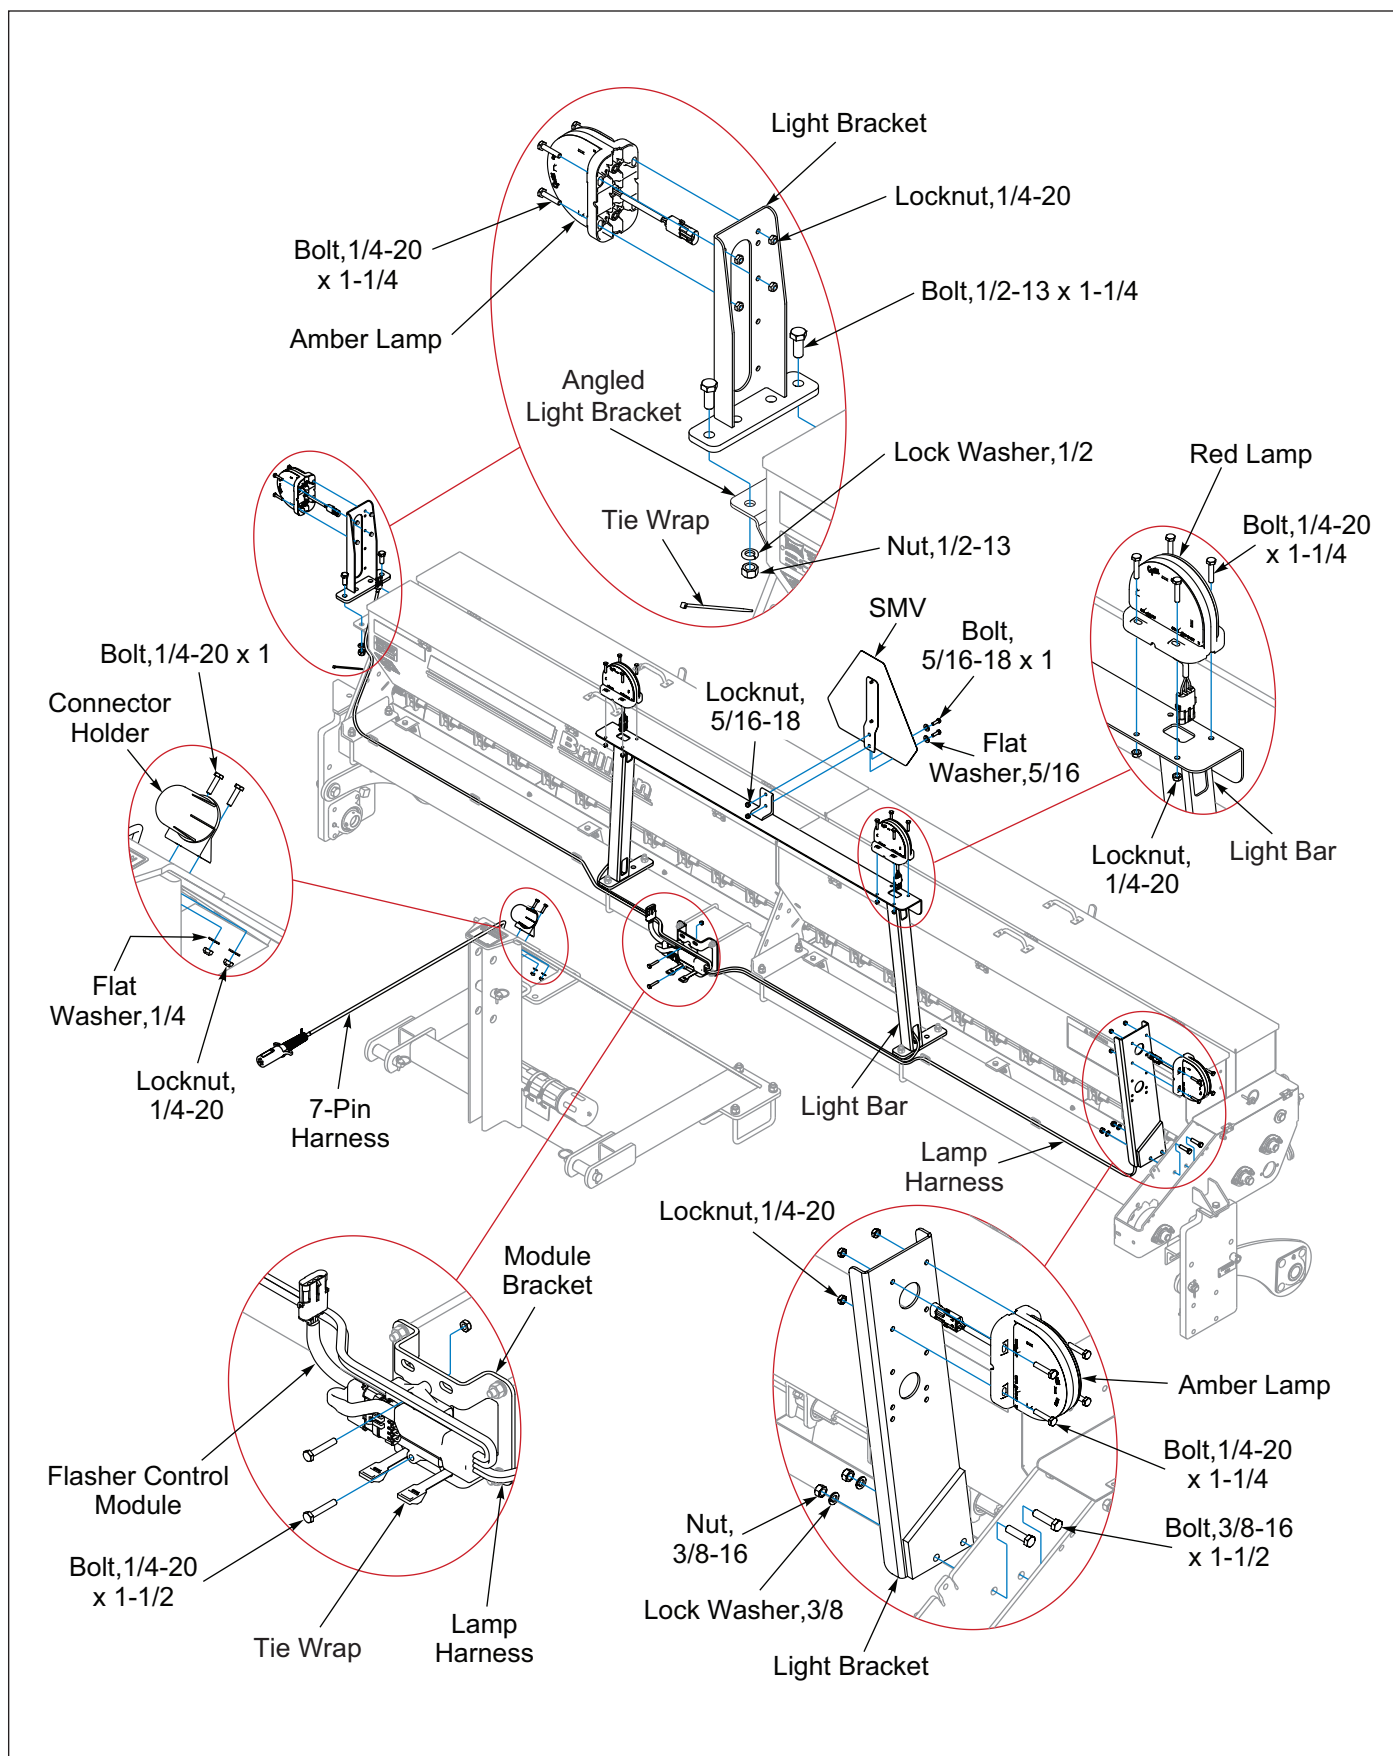

Figure 2-26: Warning Lamp Installation - 12FT (Before 08/2025)
1. Place a Red Lamp at each end of the Light Bar and insert the Red Lamp cord into the Light Bar cutout. Secure Red Lamps to Light Bar with 1/4-20 x 1-1/4 Bolts and Locknuts. **See Figure 2-26.**